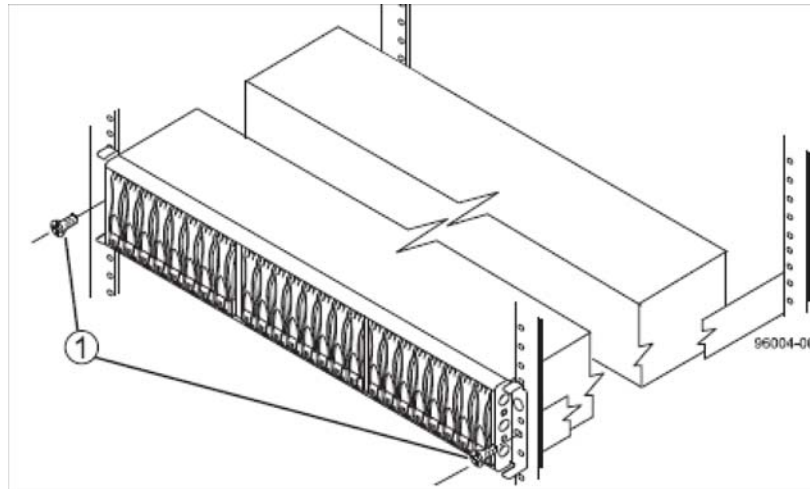

Figure 2-29 Securing the IS2224 Storage Enclosure to the Rack's Front
8. Secure the front of the storage enclosure to the cabinet. Use the two screws item (1) in Figure 2-29 to attach the flange on each side of the front of the storage enclosure to the mounting rails.